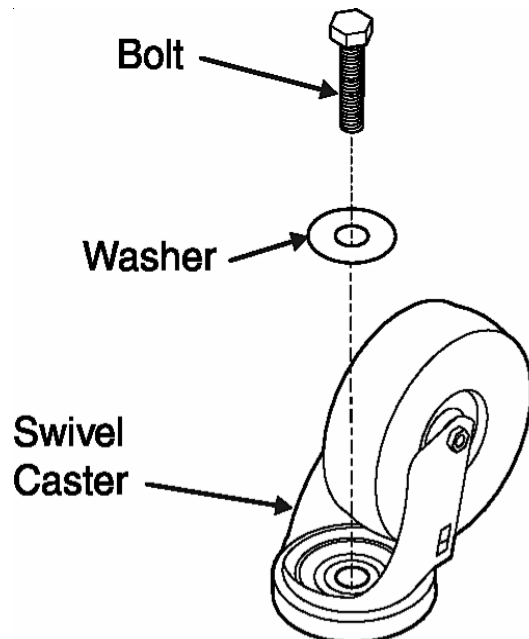

Fig. 4
- Next, insert the caster bolt through the hole on the metal spacer and then thru the rear hole of the caster rail (see Fig. 4).